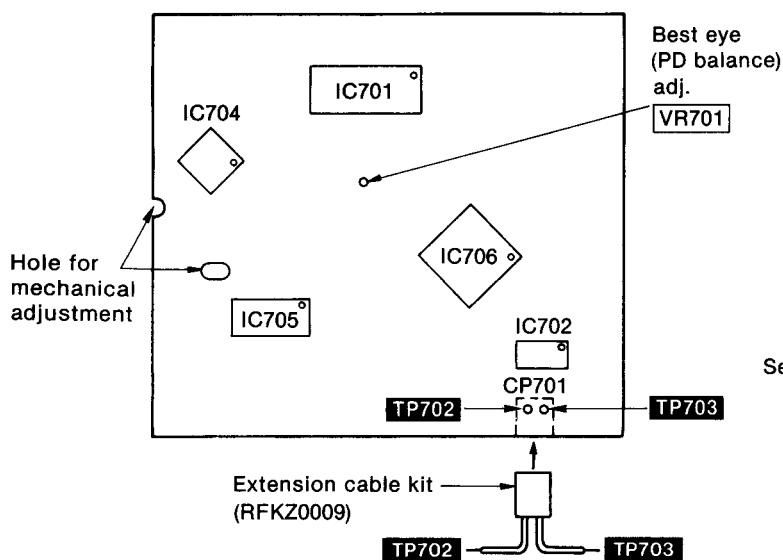

Fig. 1
[Fig. 1]
1. Move the driving gear (2) fully in the direction of arrow ⑤. (See Fig. 1.)
3. Adjust **VR701** until the vertical fluctuation of RF signal is minimized and the eye pattern is most stretched. (Refer to Fig. 1 on page 12)